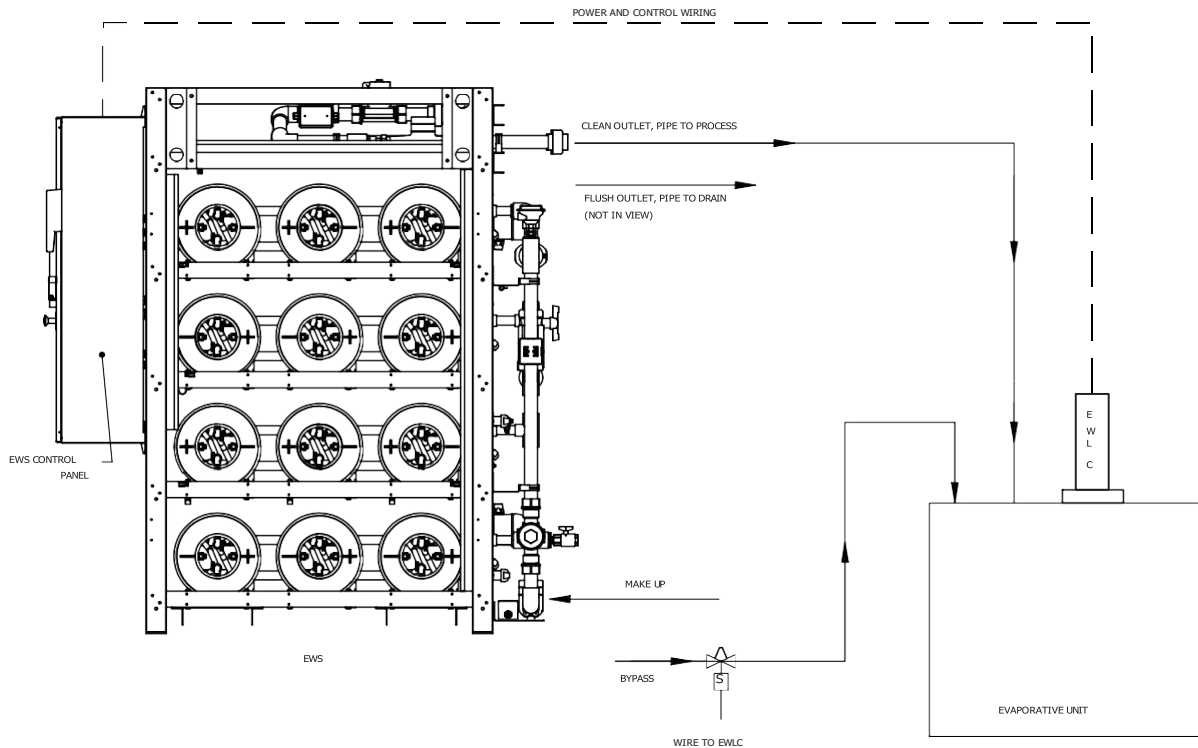
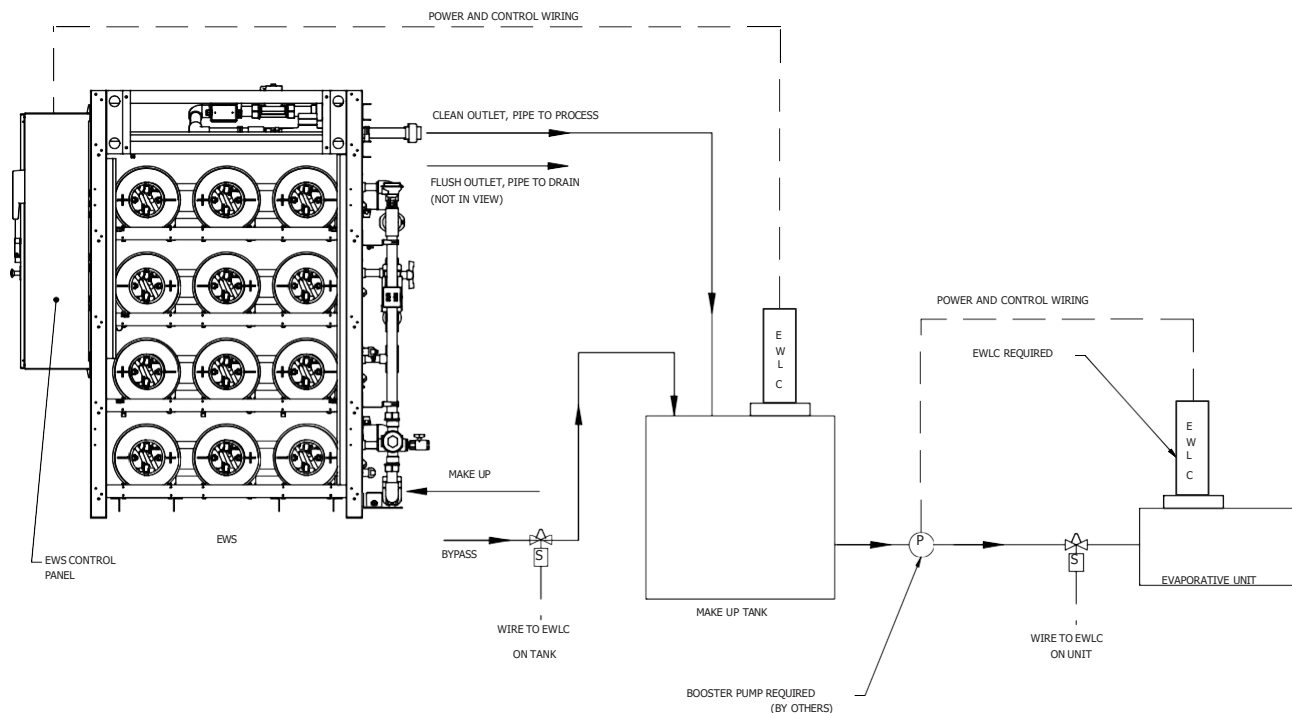
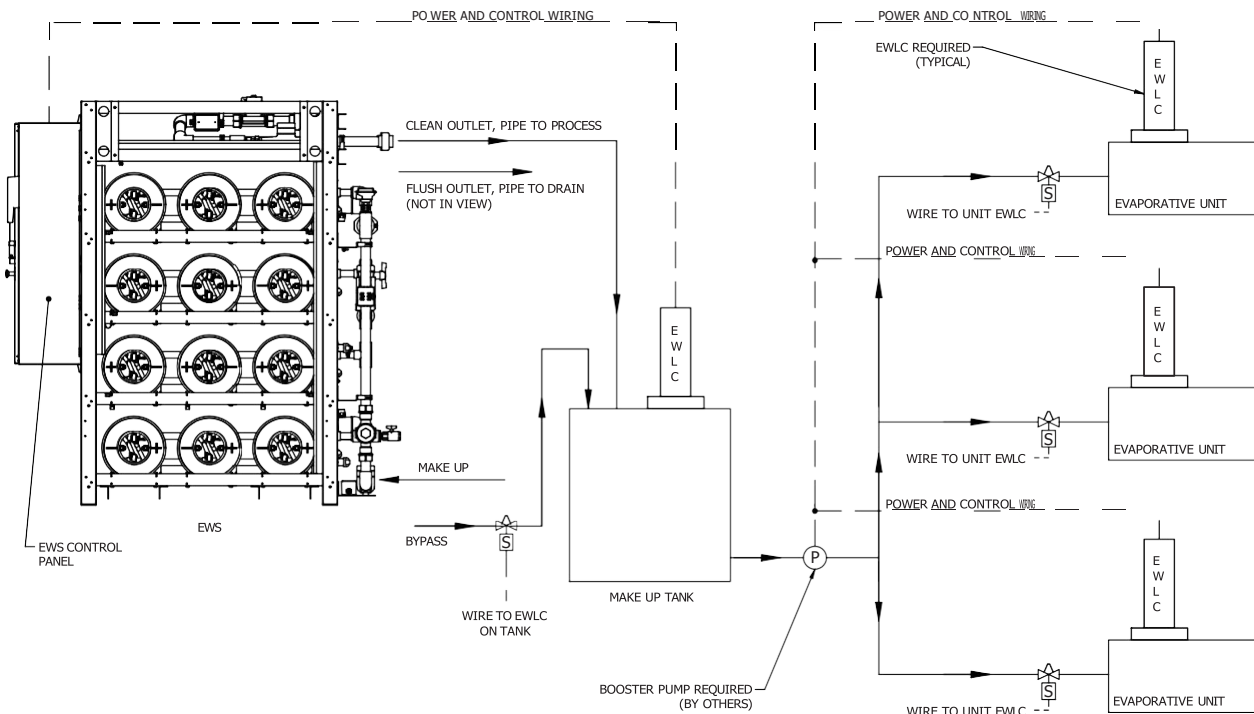
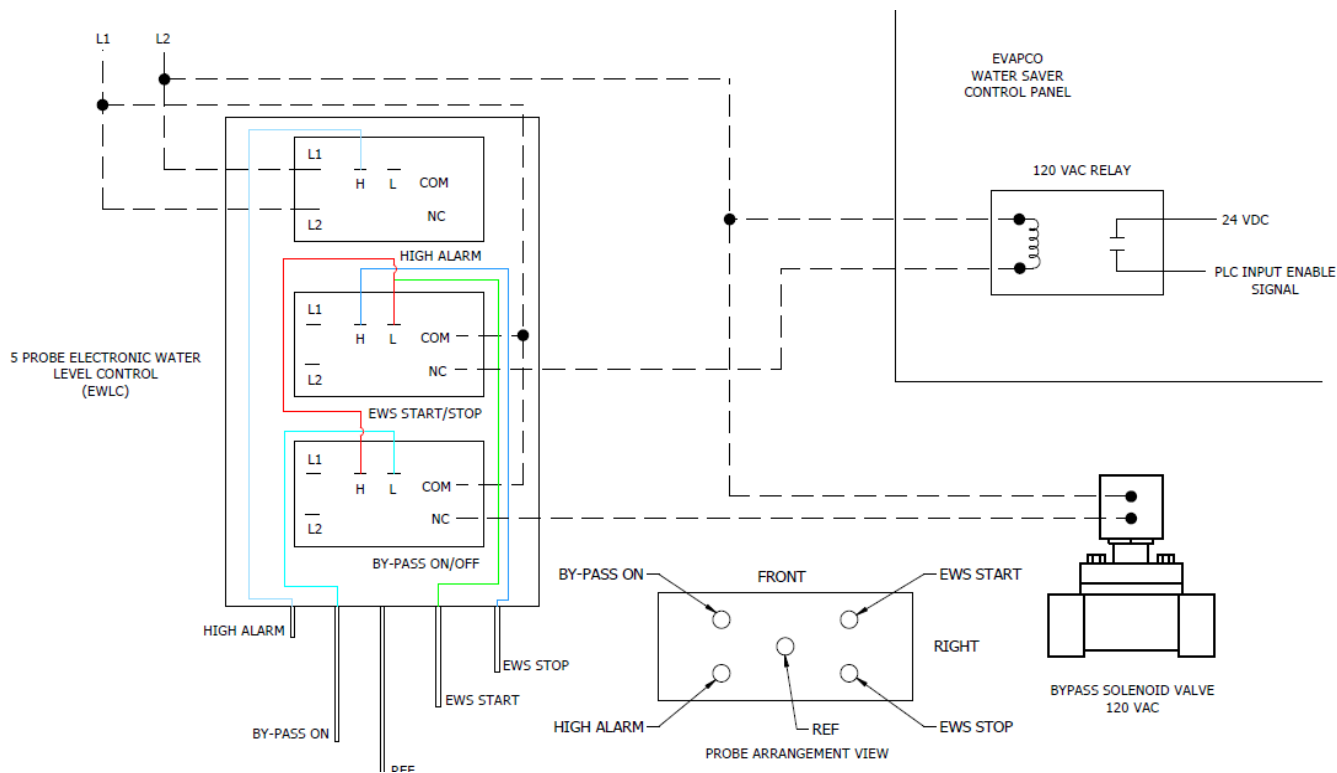

Figure 5: EWS Field Piping/Wiring for Direct Feed to Single Evaporative Unit
Figure 6: EWS Field Piping/Wiring for Single Evaporative Unit with a Makeup Tank
Figure 7: EWS Field Piping/Wiring for Multiple Evaporative Units with Makeup Tank
Figure 14: EWLC Wiring Diagram for a Single EWS Running off a Single EWLC
- EWS piped directly to a single evaporative unit (see Figure 5)
- EWS piped to a makeup water tank with a single evaporative unit (see Figure 6)
- EWS piped to a makeup water tank with multiple evaporative units (see Figure 7)
Each evaporative unit must be equipped with an Electronic Water Level Controller (EWLC). The EWLC starts Water Saver operation when makeup water demand is sensed and stops operation when demand is satisfied (see Figure 5). If the system uses a makeup tank (supplied by EVAPCO), the EWLC (supplied by EVAPCO) on the tank will start and stop Water Saver operation (see Figure 6 or Figure 7). Makeup water bypass piping and control valve are supplied and field installed (by others) and are required to ensure the evaporative unit(s) will always have makeup water available.
See Figure 5-Figure 7 for examples of typical bypass piping configurations. Wire the bypass valve to the 5 probe EWLC as shown in Figure 14. Bypass operation is controlled by EWLC.
Figure 14 shows wiring for a single EWS running off a single EWLC. Internal wiring to be done by others. For other configurations, please contact your local Evapco Representative.